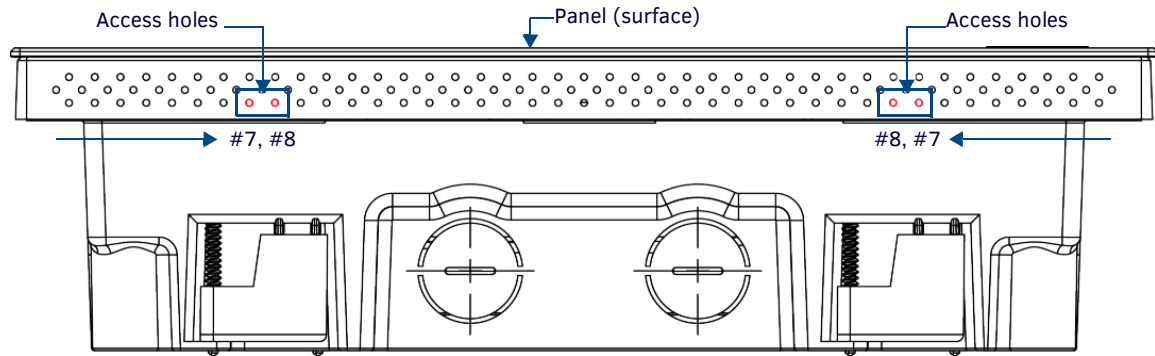

FIG. 49 Bottom View (Landscape) or Right-Side View (Portrait) of the MXD-1000 showing access holes in molding
- On the bottom (Landscape) or right side (Portrait) of the MXD-1000, locate the **seventh and eighth** ventilation holes from each edge, on the row closest to the Backbox (FIG. 49):
- On the bottom (Landscape) or right side (Portrait) of the MXD-700, locate the **fifth** ventilation holes from each edge, on the row closest to the Backbox (FIG. 49):